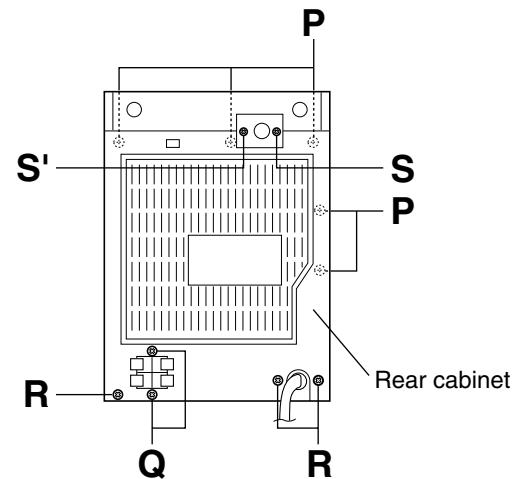

Fig.18
- Remove the main board according to its disassembly method. (See Figs. 18 and 19.)
(See Figs. 18 and 19.)
1. From the inside of the main body, remove the five screws **P** retaining the bracket. (See Fig.18.)
3. From the rear side of the main body, remove the two screws **Q** and three screws **R** retaining the rear cabinet. (See Fig.18.)
4. Remove the screw **S** and screw **S'** retaining the FM antenna board and earth wire. (See Fig.18.)